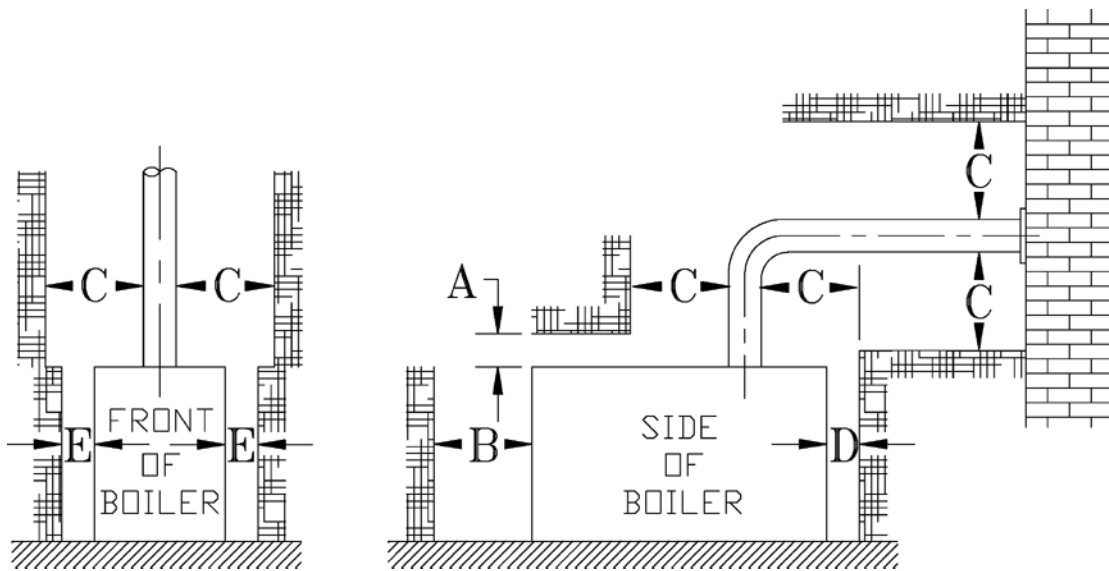

Figure 2: Minimum Clearances to Combustible Materials
- For minimum clearances to combustible materials. See Figure 2.
- 4) Set boiler squarely on top of shield such that base plate of boiler rests flat on top surface of shield and does not over-hang shield on any side. Confirm clearance to combustible walls. Refer to Figure 2.
- 5) **DO NOT** enclose boiler (including shield) on all four sides. Boiler may be enclosed on any three sides while maintaining minimum clearances shown in Figure 2 for each of those three sides.